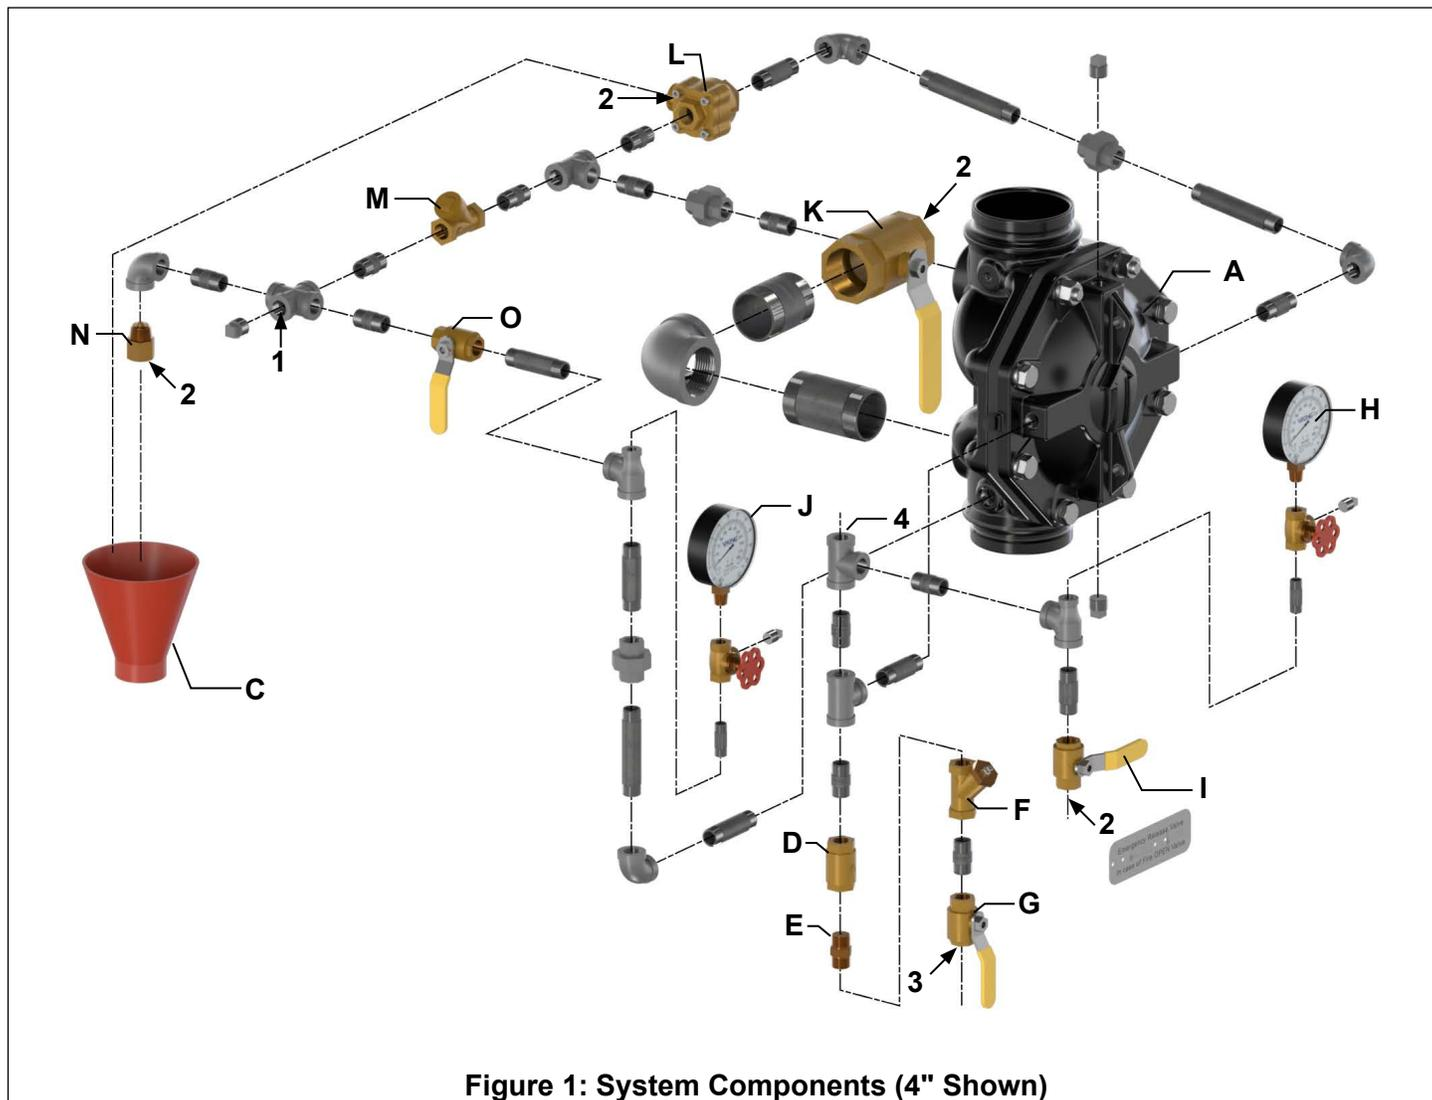

Figure 1: System Components (4" Shown)
- Verify that the main water supply control valve is open and that all other valves are in their normal operating position and appropriately secured. (refer to Figure 1)